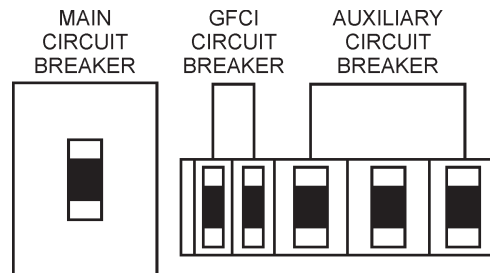

Figure 53. Main, GFCI and Load Circuit Breakers Off
1. Place both the **MAIN, GFCI and LOAD** circuit breakers as shown in Figure 53 to the **OFF** position..